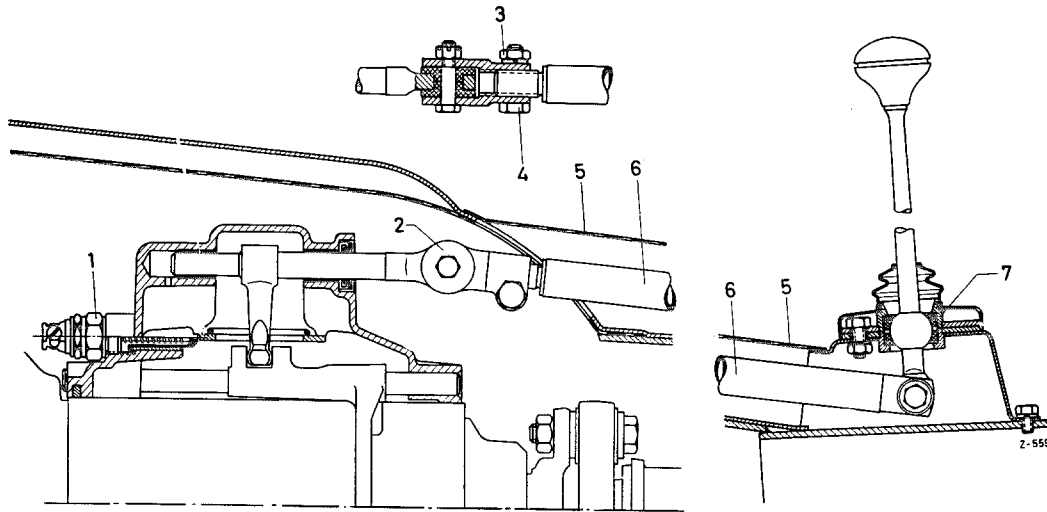

Fig. 26-1/9
1. Roll back the rubber mat on the transmission tunnel to the left. After unscrewing the six hexagon tapping screws from the tunnel, remove the cover plate (5) for the shift linkage (Fig. 26-1/9).
2. Loosen the hexagon nut (3) on the yoke end (2) and take out the hexagon screw (4).
Then insert the hexagon screw (4) in the yoke end, install the lock washer and tighten the hexagon nut (3) (Fig. 26-1/9).